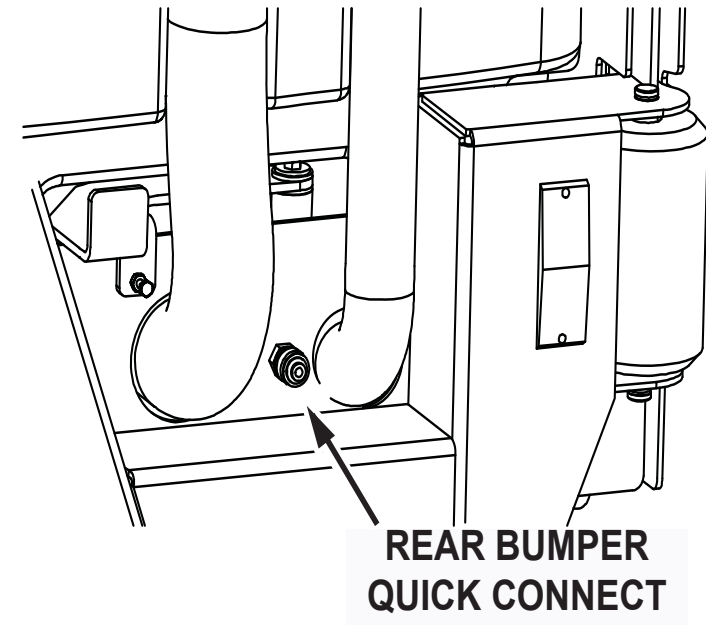

Fig. 1: Spray Wand Quick Disconnect
7. Attach the wand solution hose to the quick disconnect fitting on the upper end of the wand and to the quick disconnect fitting located on the rear bumper of the machine between the tank drain hoses. (See Fig. 1)